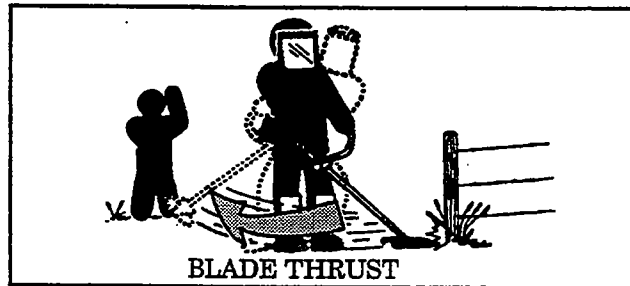

Figure 21
1. WHAT CAUSES BLADE THRUST *Blade Thrust* can occur when the spinning blade contacts an object that it does not cut. This contact causes the blade to stop for an instant and then suddenly move or "thrust" away from the object that was hit. The "thrusting" reaction can be violent enough to cause the operator to be propelled in any direction and lose control of the unit. The uncontrolled unit can cause serious injury if the blade contacts the operator or others. Figure 21.